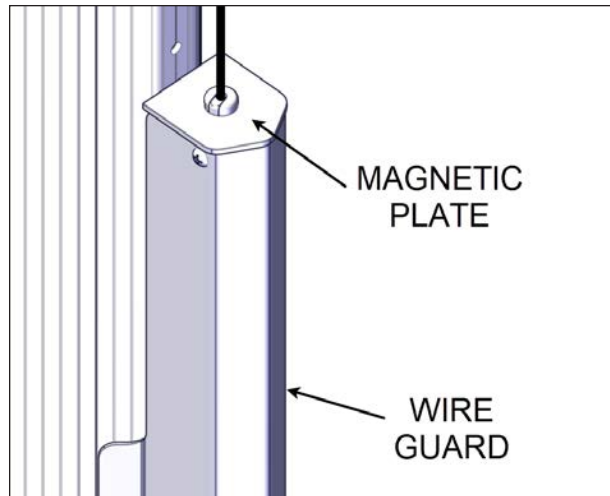

FIGURE 85: MAGNETIC PLATE AND WIRE GUARD
You might need to reassemble your wire guard harness if the magnetic plate (Figure 85) came off to let the wire out.
4. Reinstall the plate on top of the wire guard. There are two magnets that hold the plate in place see Figure 85. The wire should have sufficient tension and stand straight. Make sure the cable is not jammed into the wire guard or twisted around the post.
5. Once the plate is installed, the assembly should look as shown in Figure 85. The wire should have sufficient tension and look straight.